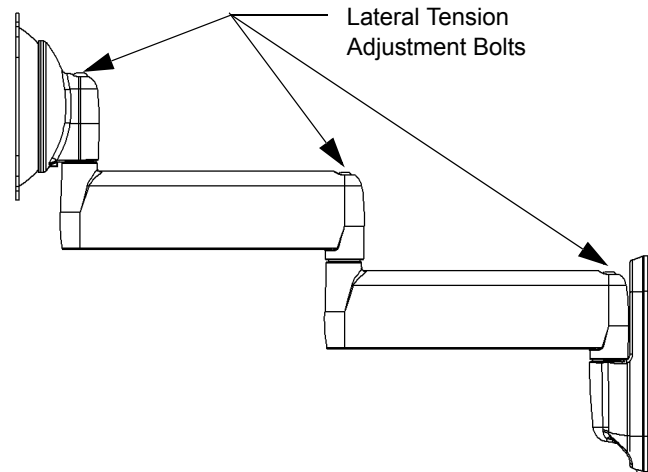

Figure 12: Adjust Lateral Tension
1. Using a 3/16" hex wrench (170), slightly tighten or loosen lateral tension adjustment bolts. (see figure 12)